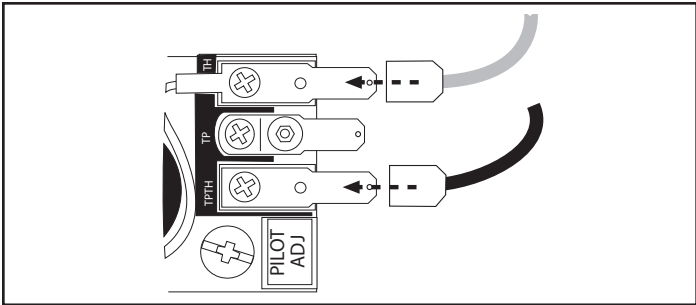

Figure 54 - Attach switch wires to valve.
4. Attach wires to valve terminals, Figure 54.
2. Connect the thermostat wires to the valve, Figure 54)